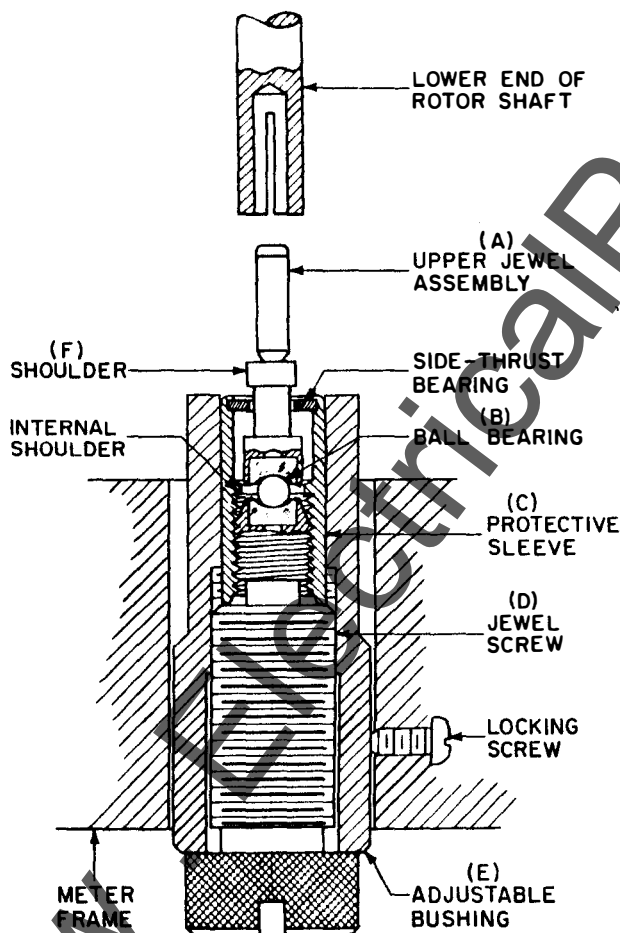

Fig. 4. Enclosed-type ball bearing used on 3- and 4-stator meters below serial number 30,861,500
The enclosed-type ball bearing consists of a ball held between an upper and a lower jewel, the whole being enclosed in a protective sleeve, as shown in Fig. 4.
The following procedure, with reference to Fig. 4, is recommended for replacement of an enclosed-type ball bearing.
2. Hold the sleeve (c) in one hand with the threaded end up and drop the upper jewel assembly (a) into the sleeve, making sure that the shoulder (f) is pulled through the small hole in the sleeve until it appears, as shown in Fig. 4.